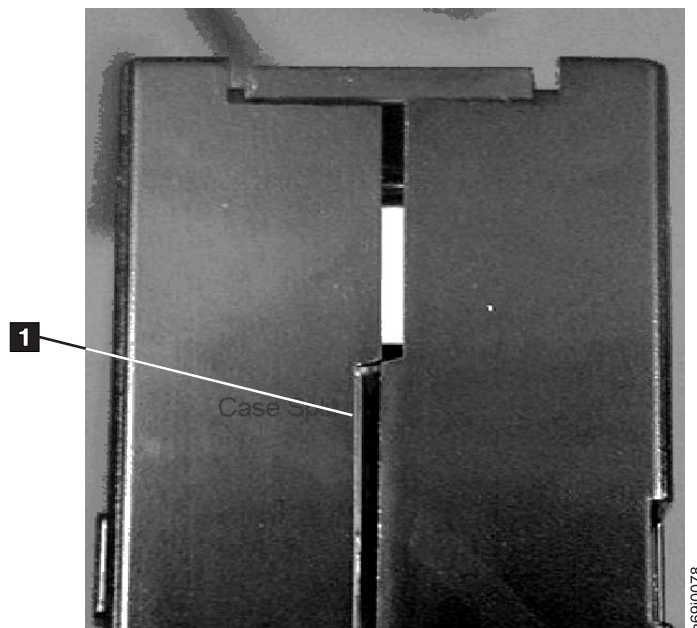
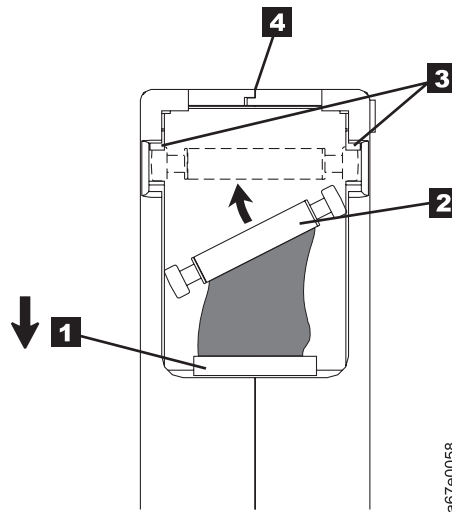

Figure 17. Checking for gaps in the seams of a cartridge
Figure 19. Placing the dislodged leader pin into the correct position. The cartridge door is open to show the leader pin.
- Inspect the rear of the cartridge (the part that loads first into the tape load compartment) and ensure that there are no gaps in the seam of the cartridge case (see **1** in Figure 17 and **4** in Figure 19 on page 62). If there are gaps in the seam (see Figure 17), the leader pin may be dislodged. Go to “Repositioning or Reattaching a Leader Pin” on page 61.
### Example: Split Cartridge Case (see Figure 17 on page 58)
1. Slide open the cartridge door ( **1** in Figure 19) and locate the leader pin ( **2** (you may need to shake the cartridge gently to roll the pin toward the door).